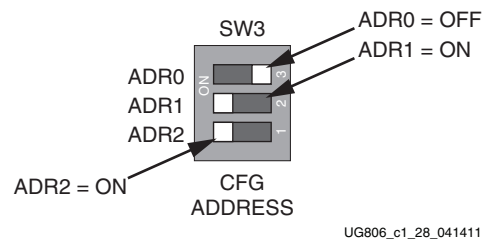

Figure 1-28: Configuration Address DIP Switch (SW3)
4. Select the GTX IBERT demonstration with the System Ace controller CFG ADDRESS switch, SW3. The setting on this 3-bit DIP switch (Figure 1-28) selects the file used to configure the FPGA. A switch is in the ON position if it switched towards the ON text printed on the DIP; otherwise, it is OFF. For the Quad 100 GTH IBERT demonstration, set: ADR2 = ON, ADR1 = ON, and ADR0 = OFF.